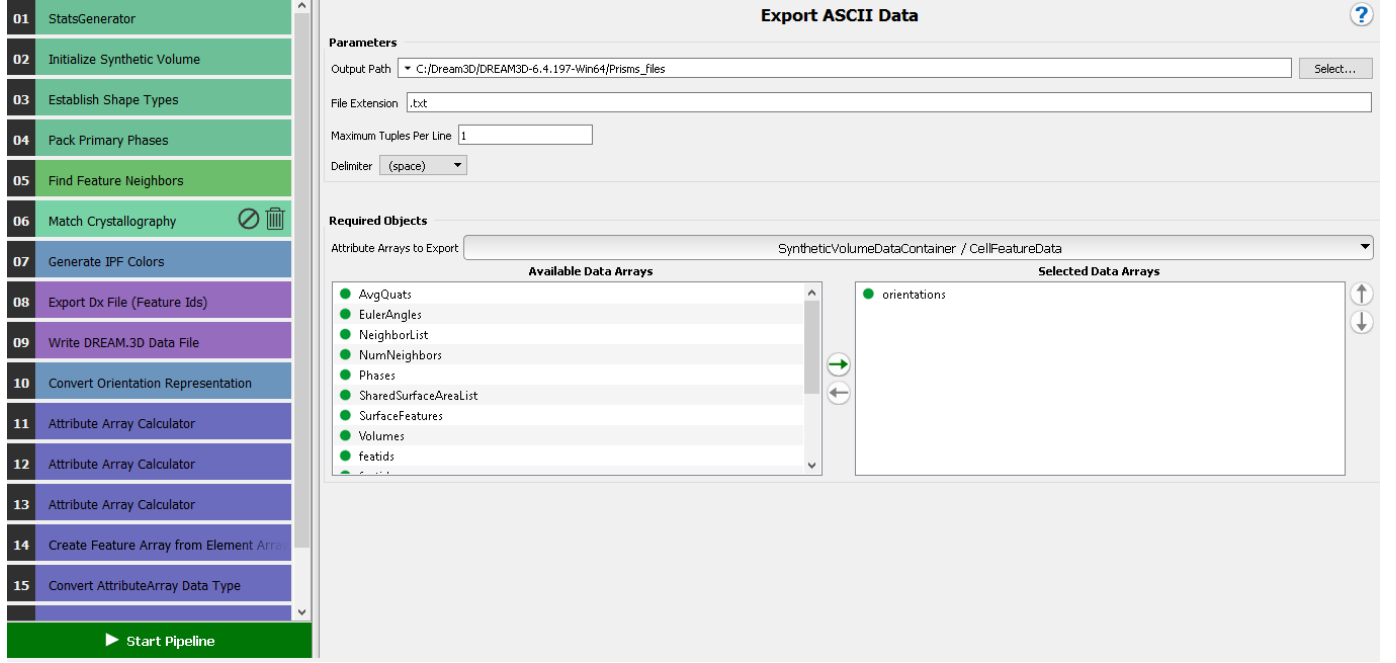

Figure 20: Export orientations.txt
18. Copy the **Export ASCII Data** filter to the pipeline window. Specify the output path as required, file extension as **.txt**, maximum tuples per line as 1 and (**space**) as the delimiter. For **Attribute Arrays to Export** choose **SyntheticVolumeDataContainer / CellData**, and then double-click on the data container **orientations**(Fig. 20). This will eventually generate the file **orientations.txt**.